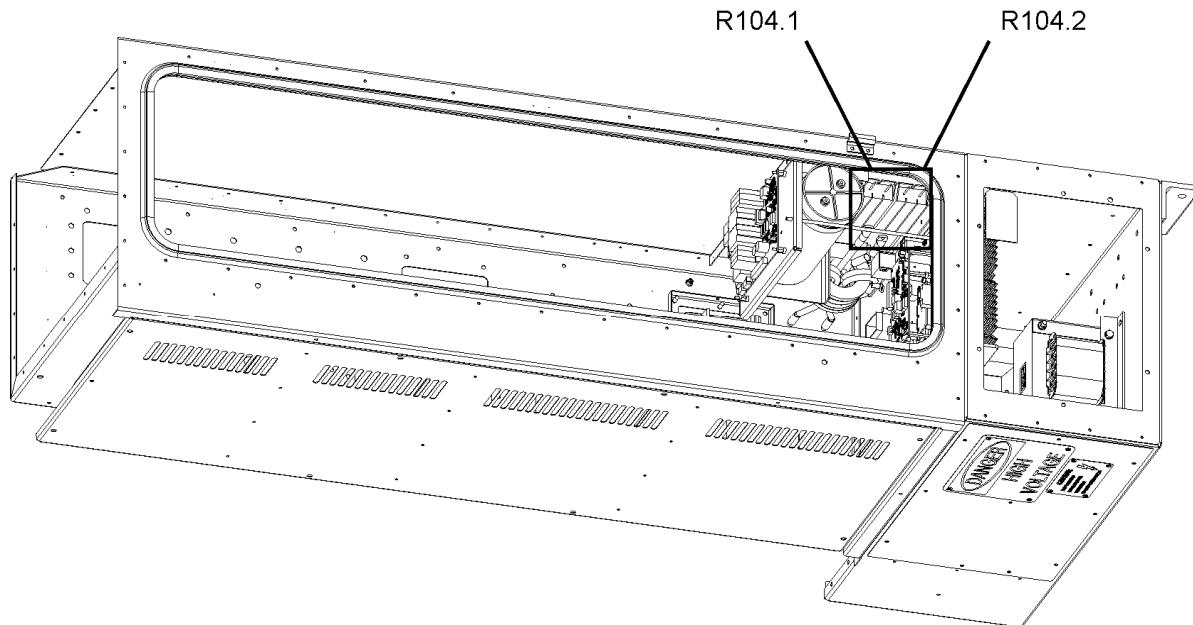

Figure 5-17: Location of R104.1 & R104.2
3. Locate R104.1 and or R104.2. See Figure 5-17 for the location of the resistor(s) to be removed.